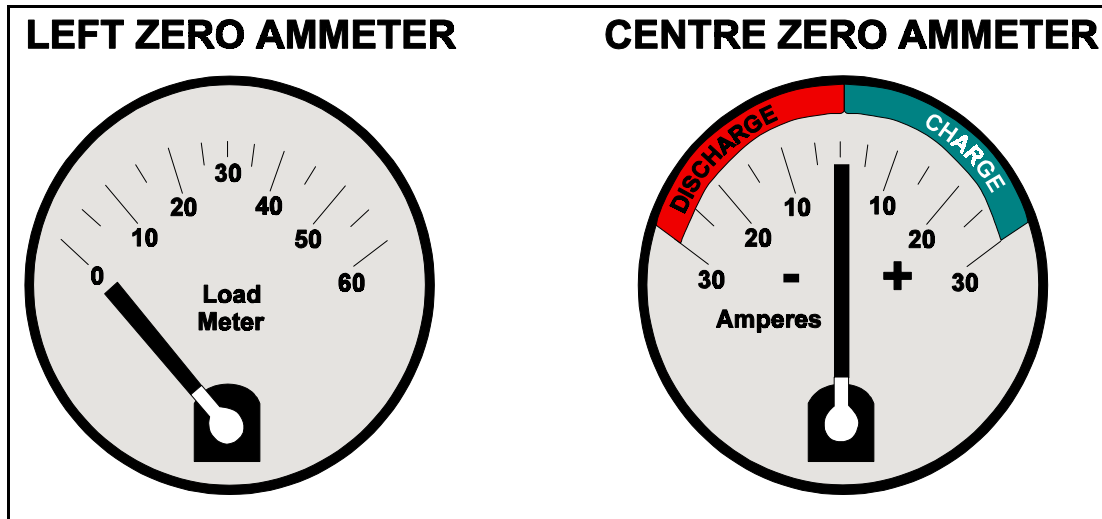

Figure 8.5 Simple Ammeters.
- The **charge / discharge** ammeter (or 'centre zero' ammeter) see Figure 8.5.
- The **generator ammeter or load meter** ('left zero' ammeter) see Figure 8.5